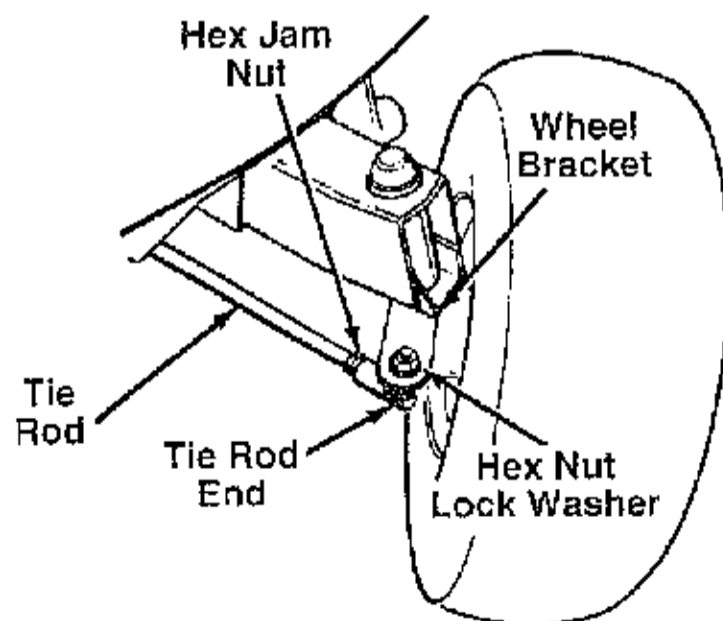

FIGURE 15.
1. Remove the hex nut and lock washer, and drop the end of the tie rod from the axle bracket. See figure 15.